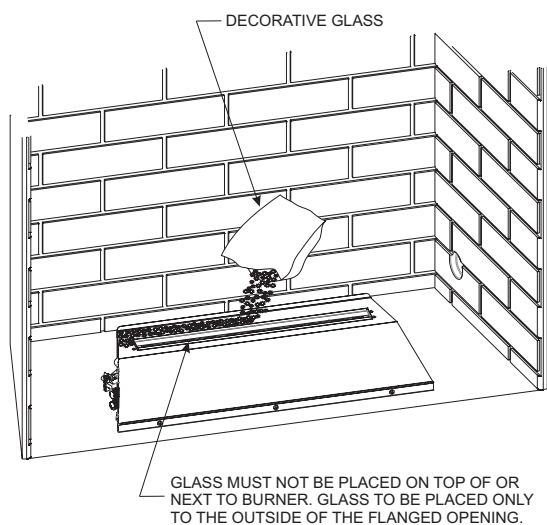
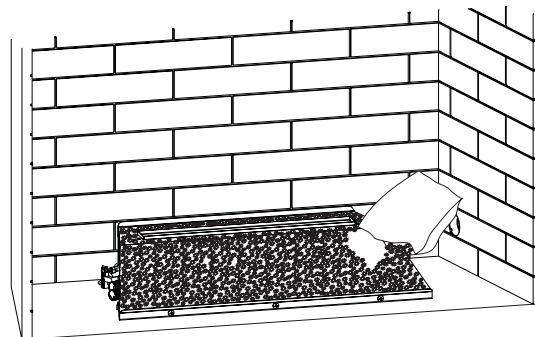

Figure 30
Figure 31
3. To install the Decorative Glass, cut off a corner of the plastic bag and proceed to apply the glass to the rear shelf on the Loft burner (area behind the burner). Apply only enough glass to the Top Cover to cover the black metal surfaces. Do not allow the glass to fall around the burner tube. See Figure 30. Apply the remaining decorative glass to the front sloped surface of the Top Cover. Start by placing the glass along the front edge of the top cover, then gradually place the glass up the sloped top until completely covered. Do not allow the glass to fall around the burner tube. See Figure 31.